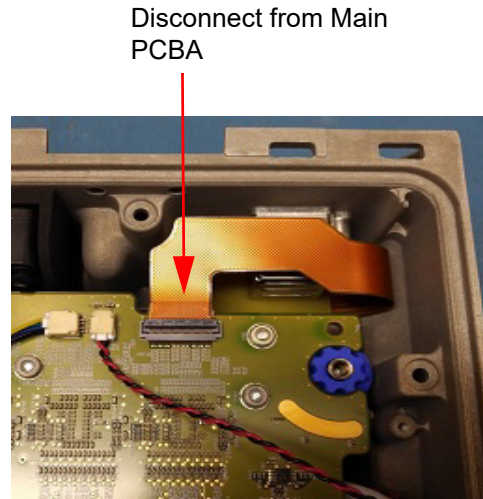

Figure 6.15 USB AUX Board
- 1 Disconnect USB Aux Board from Main PCBA per Figure 6.15 on page 58
- 2 Use a T10 bit to install two screws per Figure 6.15 on page 58 and tighten to 5.5 inch pounds.